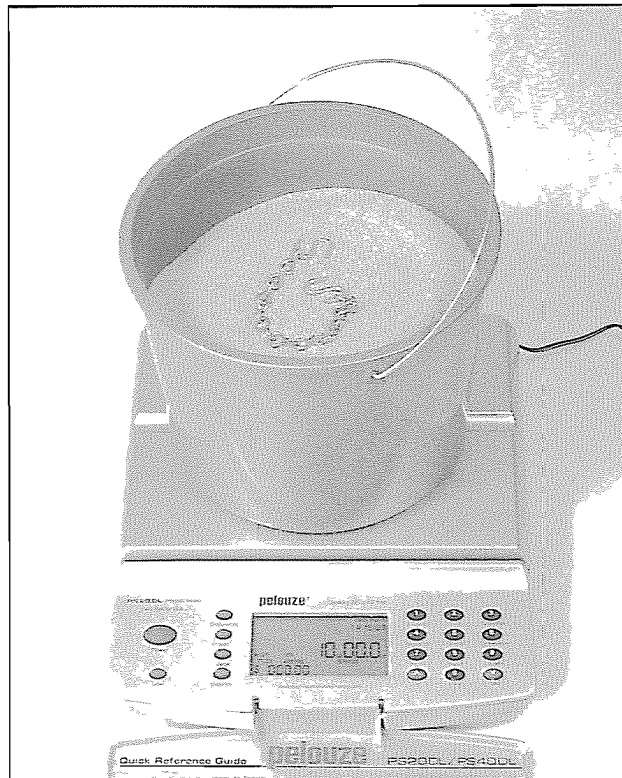

Figure 18-13. The bucket is filled with sand until the total weight, including the S-hooks and the chain, equals 10.0 lbs.
4. Buy a small bucket (with a handle), a pair of S-hooks, and a short length of lightweight chain. Place the bucket on an accurate scale, toss in the S-hooks and the chain, and fill the bucket with sand until the total weight of the bucket plus the sand plus the S-hooks plus the chain equals 10.0 lbs. (Figure 18-13).